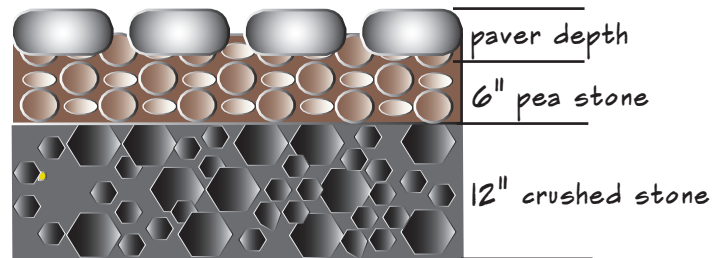

Figure 1. Pervious walkway profile.
- Sub-base material (figure 1) is the gravel and pea stone layers that go under the pavers. This material provides a reservoir for stormwater before it soaks into the ground underneath. You should have a minimum depth of 12" of 1½" diameter crushed stone and 6" of ¾" pea stone for your sub-base. Use the following equations to determine the amount of sub-base materials you will need: